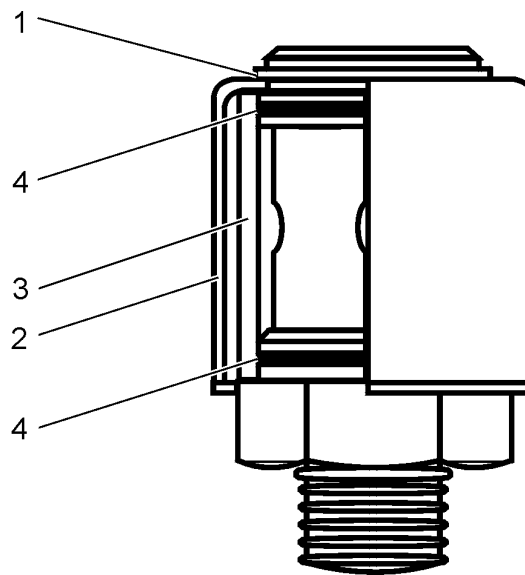

Fig. 5.33. Hydraulic Reservoir Breather
3. Remove the breather (Fig. 5.33) from the reservoir. Remove snap ring (1), cover (2), element (3) and clean in nonflammable commercial solvent. Dry thoroughly. Check O-ring (4) for wear or deterioration. Replace if necessary. Reinstall the filter and cover. Secure with snap ring (1). Reinstall the breather and the filler cap.